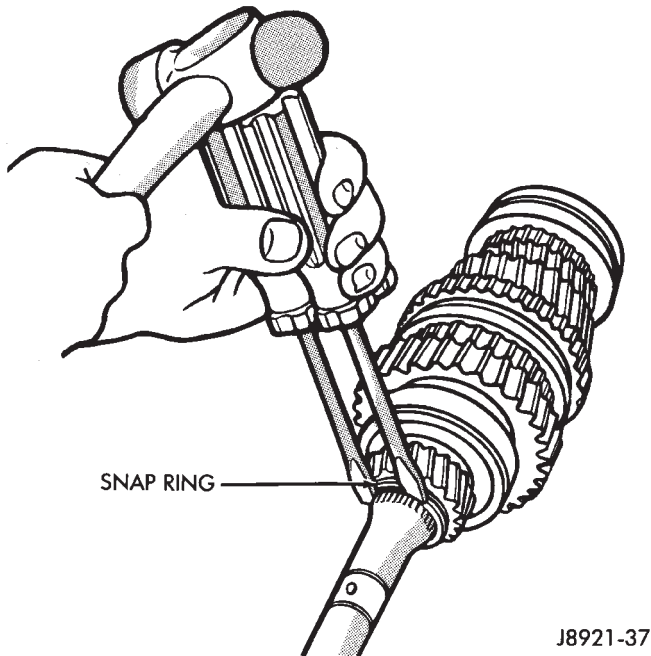

Fig. 29 Removing Fifth Gear Snap Ring
(13) Remove output shaft fifth gear snap ring with two screwdrivers (Fig. 29).